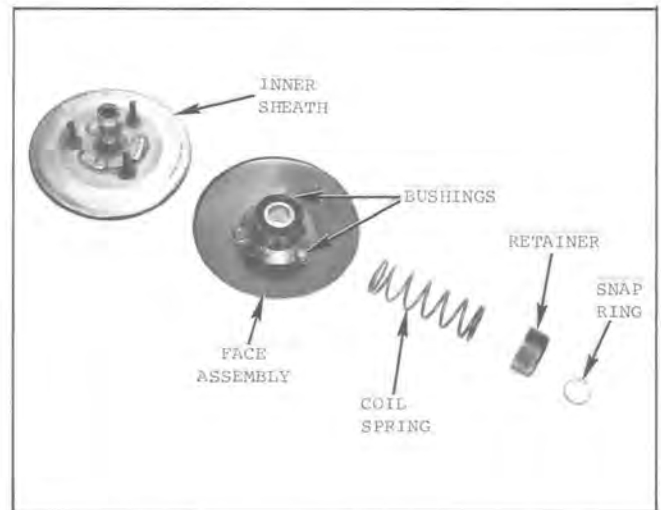

Fig. 71 — Driven Pulley Identification of Parts — L 380 Engine
- b. Carefully release tension against retainer, then separate parts as shown in Fig. 71.